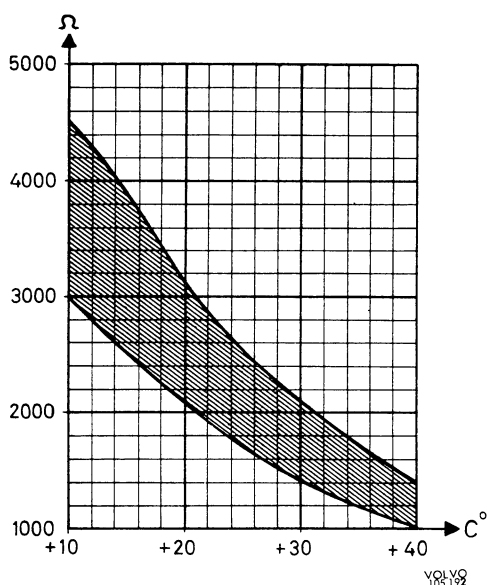

Fig. 2-94. Resistance in temperature sensor for coolant
1. Measure the resistance between the terminal pins and compare with the table, see Fig. 2-94.